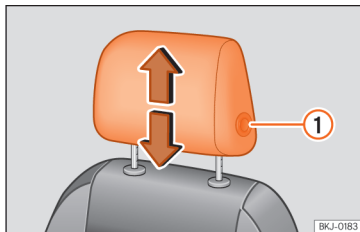
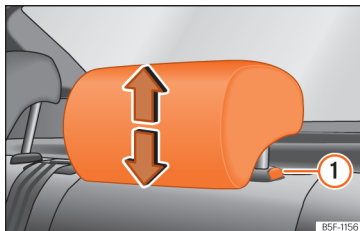

Fig.110 Front seat: headrest adjustment.
Fig.111 Rear headrest: headrest adjustment.
- Move the headrest up or down in the direction of the corresponding arrow. Regarding the rear headrest, to both raise and lower, press the button »» Fig. 110 ①; for the rear headrests it is only necessary to press the button »» Fig. 111 ① to lower them »» ⚠ in Introduction on page 127.
- Press the side button »» Fig. 110 ① and remove the headrest.